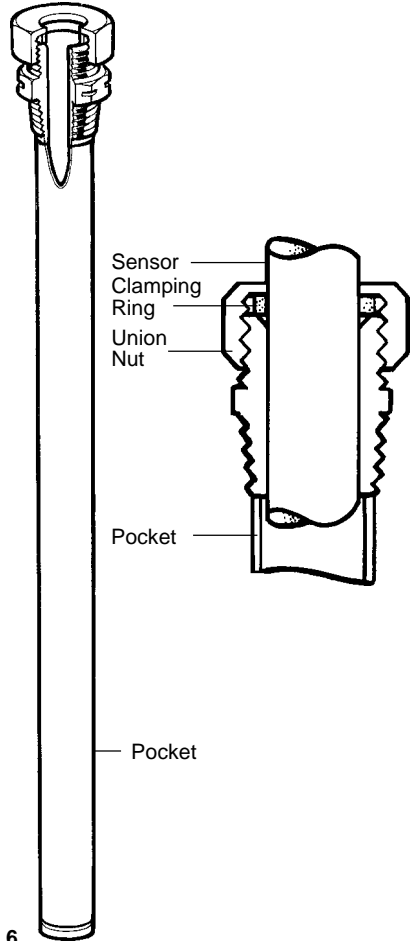

Fig. 6
4.3. A pocket fig. 6 is provided to house the immersion sensor. It has a 1" BSP male thread and should be fitted into a secondary flow to secure the controlled water temperature as follows.